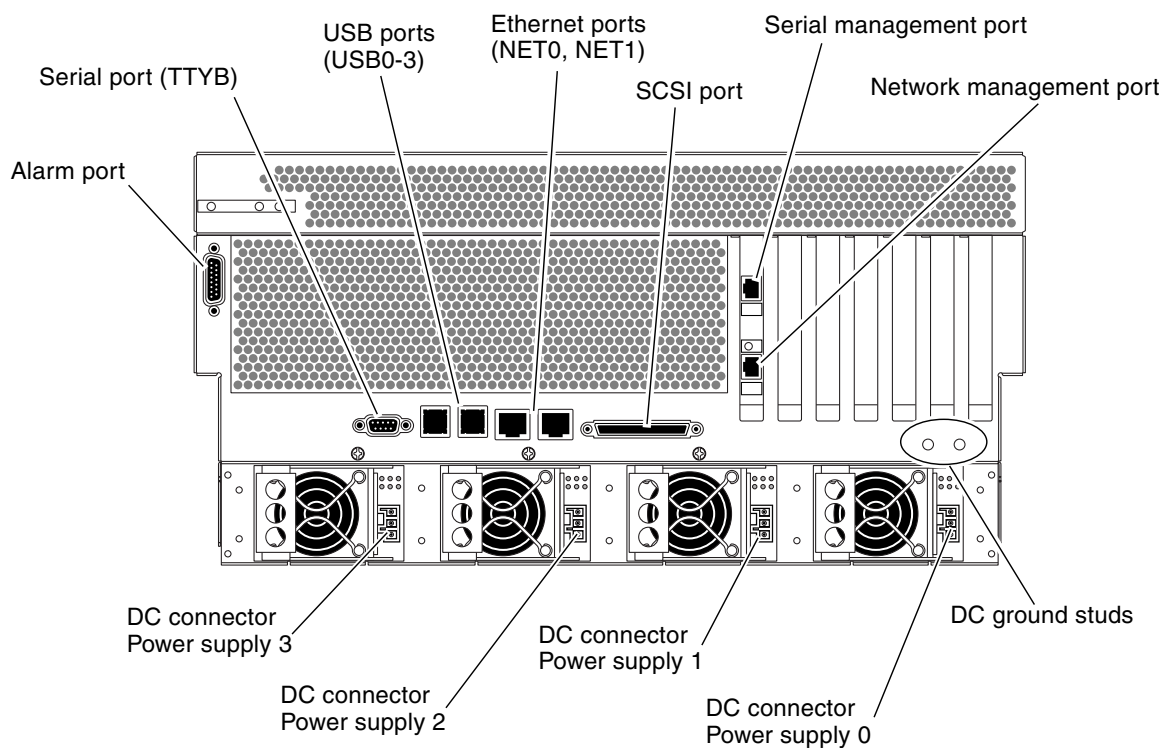
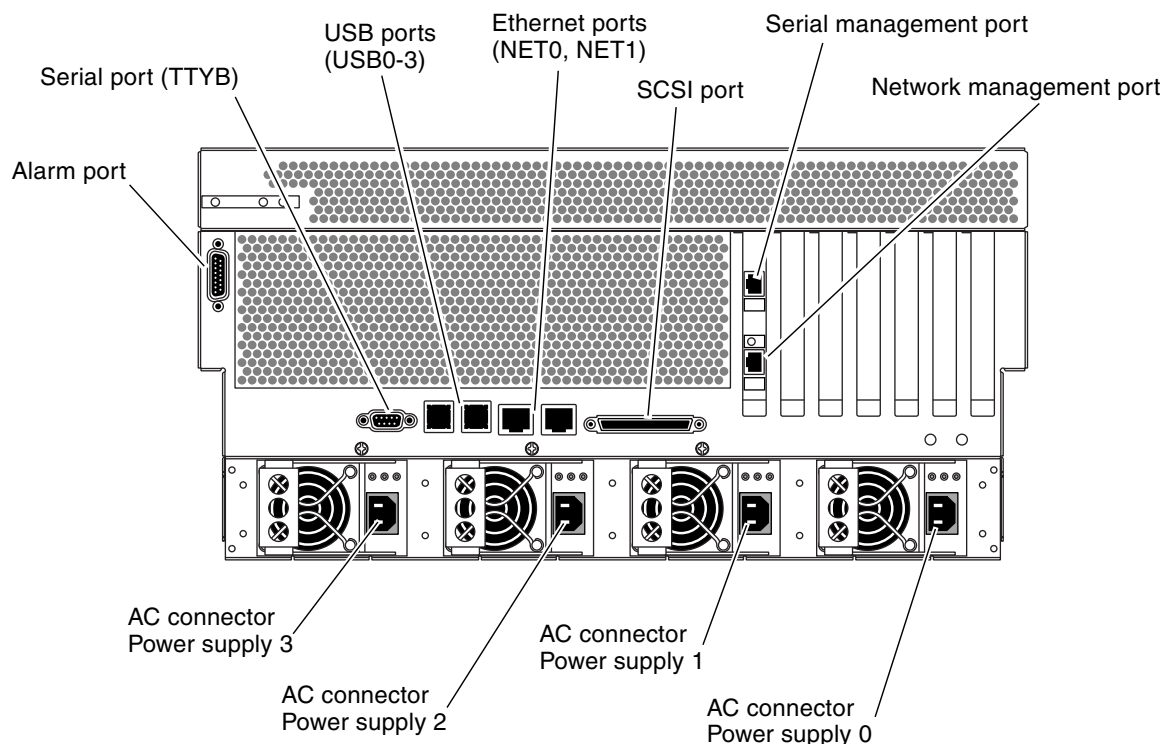

FIGURE 4-1 Back Panel Features (DC Version)
FIGURE 4-2 Back Panel Features (AC Version)
FIGURE 4-1 shows the DC version of the Netra 440 server back panel and identifies the DC power supply connectors and I/O ports. FIGURE 4-2 shows the AC version of the Netra 440 server back panel and identifies the AC power supply connectors and I/O ports.
2. Go to the back of the server and locate the two DC ground studs (see FIGURE 4-1).
See FIGURE 4-1 for the locations of these ports. The following sections give the pinouts for each of these connectors.